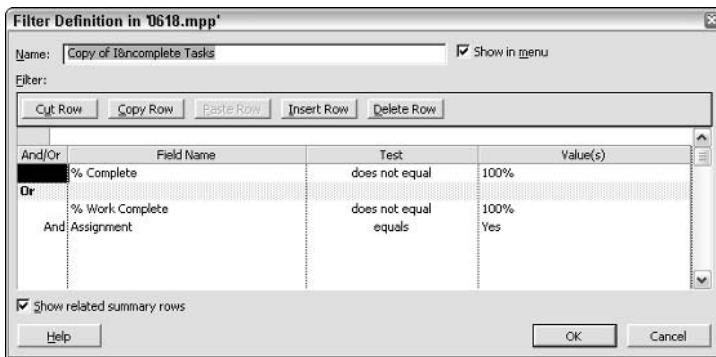

Figure 7-31: The Filter Definition dialog box enables you to edit an existing filter.
4. Highlight the filter that you want to modify, and click the Copy button. Project displays a Filter Definition dialog box that is similar to the one shown in Figure 7-31.